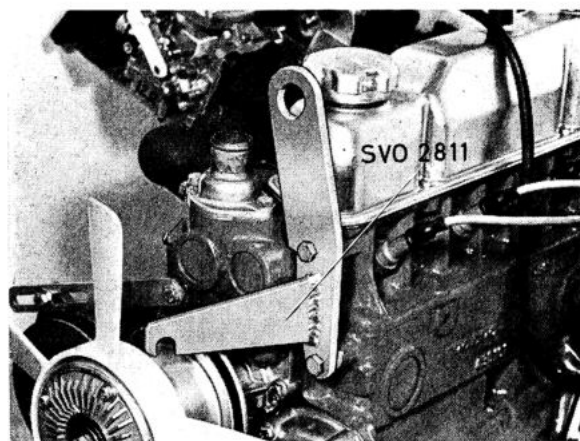
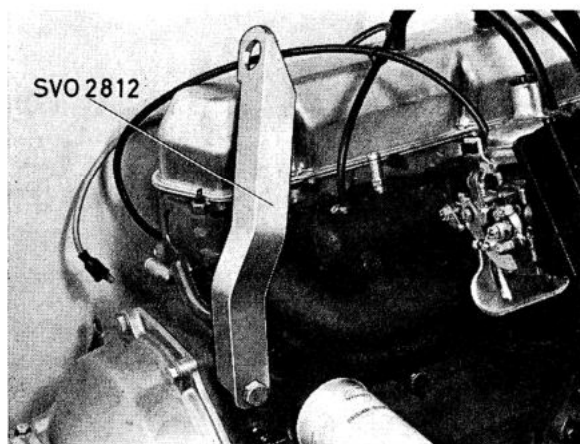

Fig. 2-9. Lifting lug SVO 2811 on engine front end
Fig. 2-10. Lifting arm SVO 2812 on rear end of engine
10. Fit lifting lug SVO 2811 to the front end of the engine as shown in Fig. 2-9 and lifting arm SVO 2812 on the engine rear end as shown in Fig. 2-10. Prop up the vehicle with four blocks.